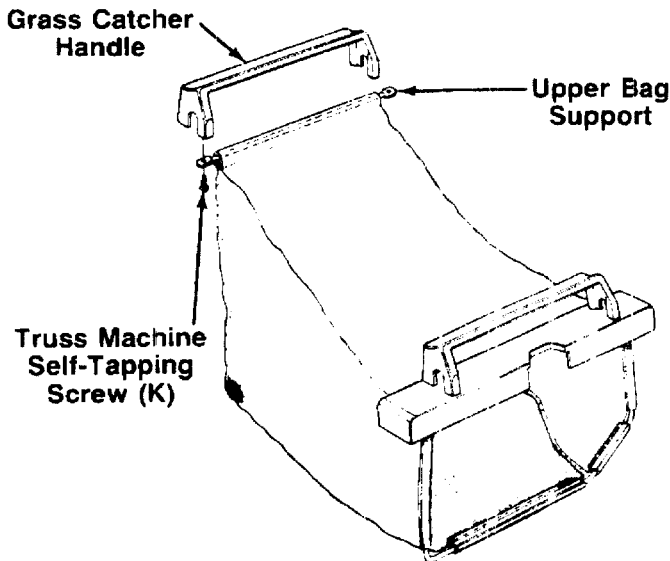

FIGURE 10.
1. Place bag over frame (black plastic side is the bottom of bag). Handle on frame goes to the top of bag. Cutout in handle goes toward the front as shown in figure 10.
2. Secure bag to frame by slipping plastic channels on bag over frame. See figure 10.
3. Insert the upper bag support into the pocket on the rear of the bag. Place grass catcher handle on top of grass catcher support as shown in figure 10. The handle should hook toward the rear of the bag as shown in figure 10. Secure with two truss machine self-tapping screws (K).